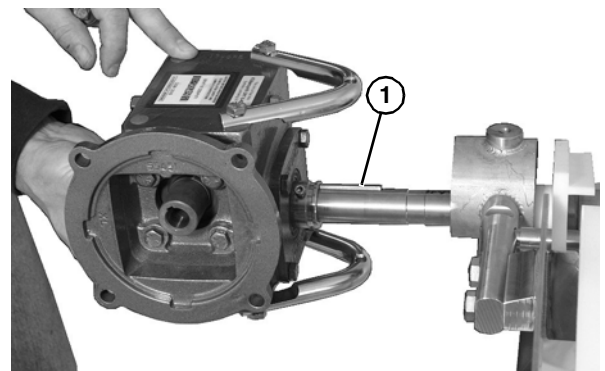

Figure 57
6. Slide assembly off the bearing spindle (Figure 57). Remove the key (Figure 57, item 1).